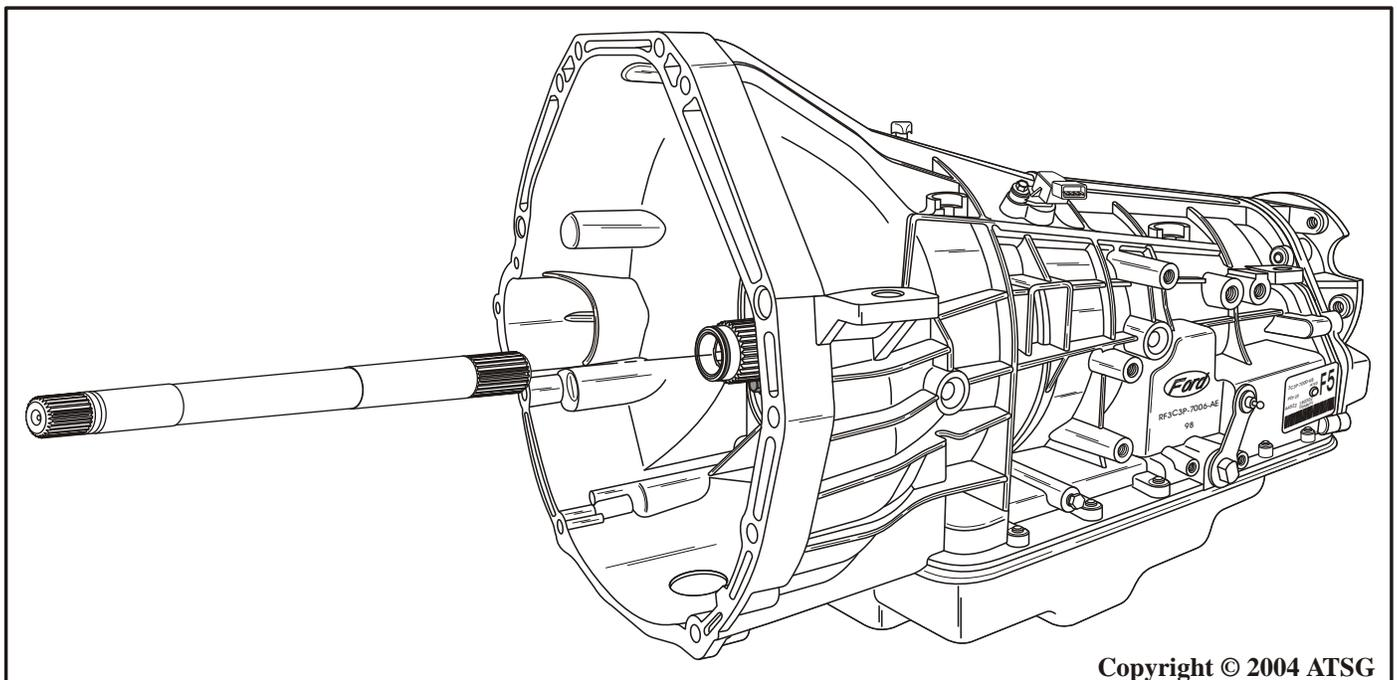

Figure 188
53. Install turbine shaft as shown in Figure 188.